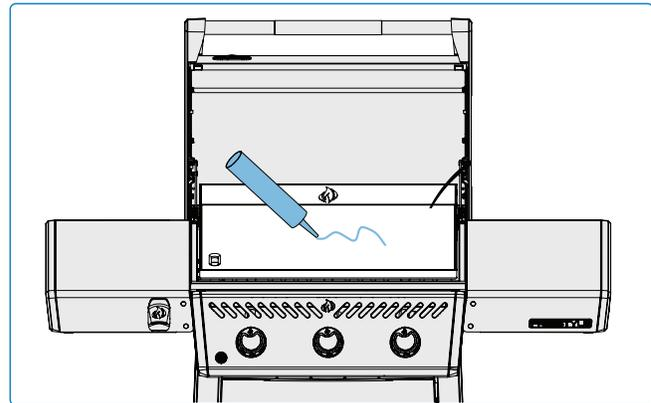

Fig. 9
- The griddle plate should be oiled before cooking to prevent food from sticking. **(Fig. 9)**.